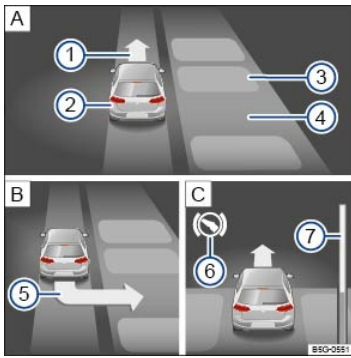

Fig. 126 In the instrument cluster display: Parking perpendicular to the road.
- Drive into the parking space when the prompt to park appears ⇒ Fig. 126 ⑤.
When the prompt to park appears ⇒ Fig. 126 ⑤, select a different parking mode by pressing the **P** button ⇒ Fig. 124 again. After all relevant parking modes have been displayed, Park Assist switches off automatically. The originally recommended parking mode is displayed again if you press the **P** button ⇒ Fig. 124 another time.
Key to ⇒ Fig. 126 :